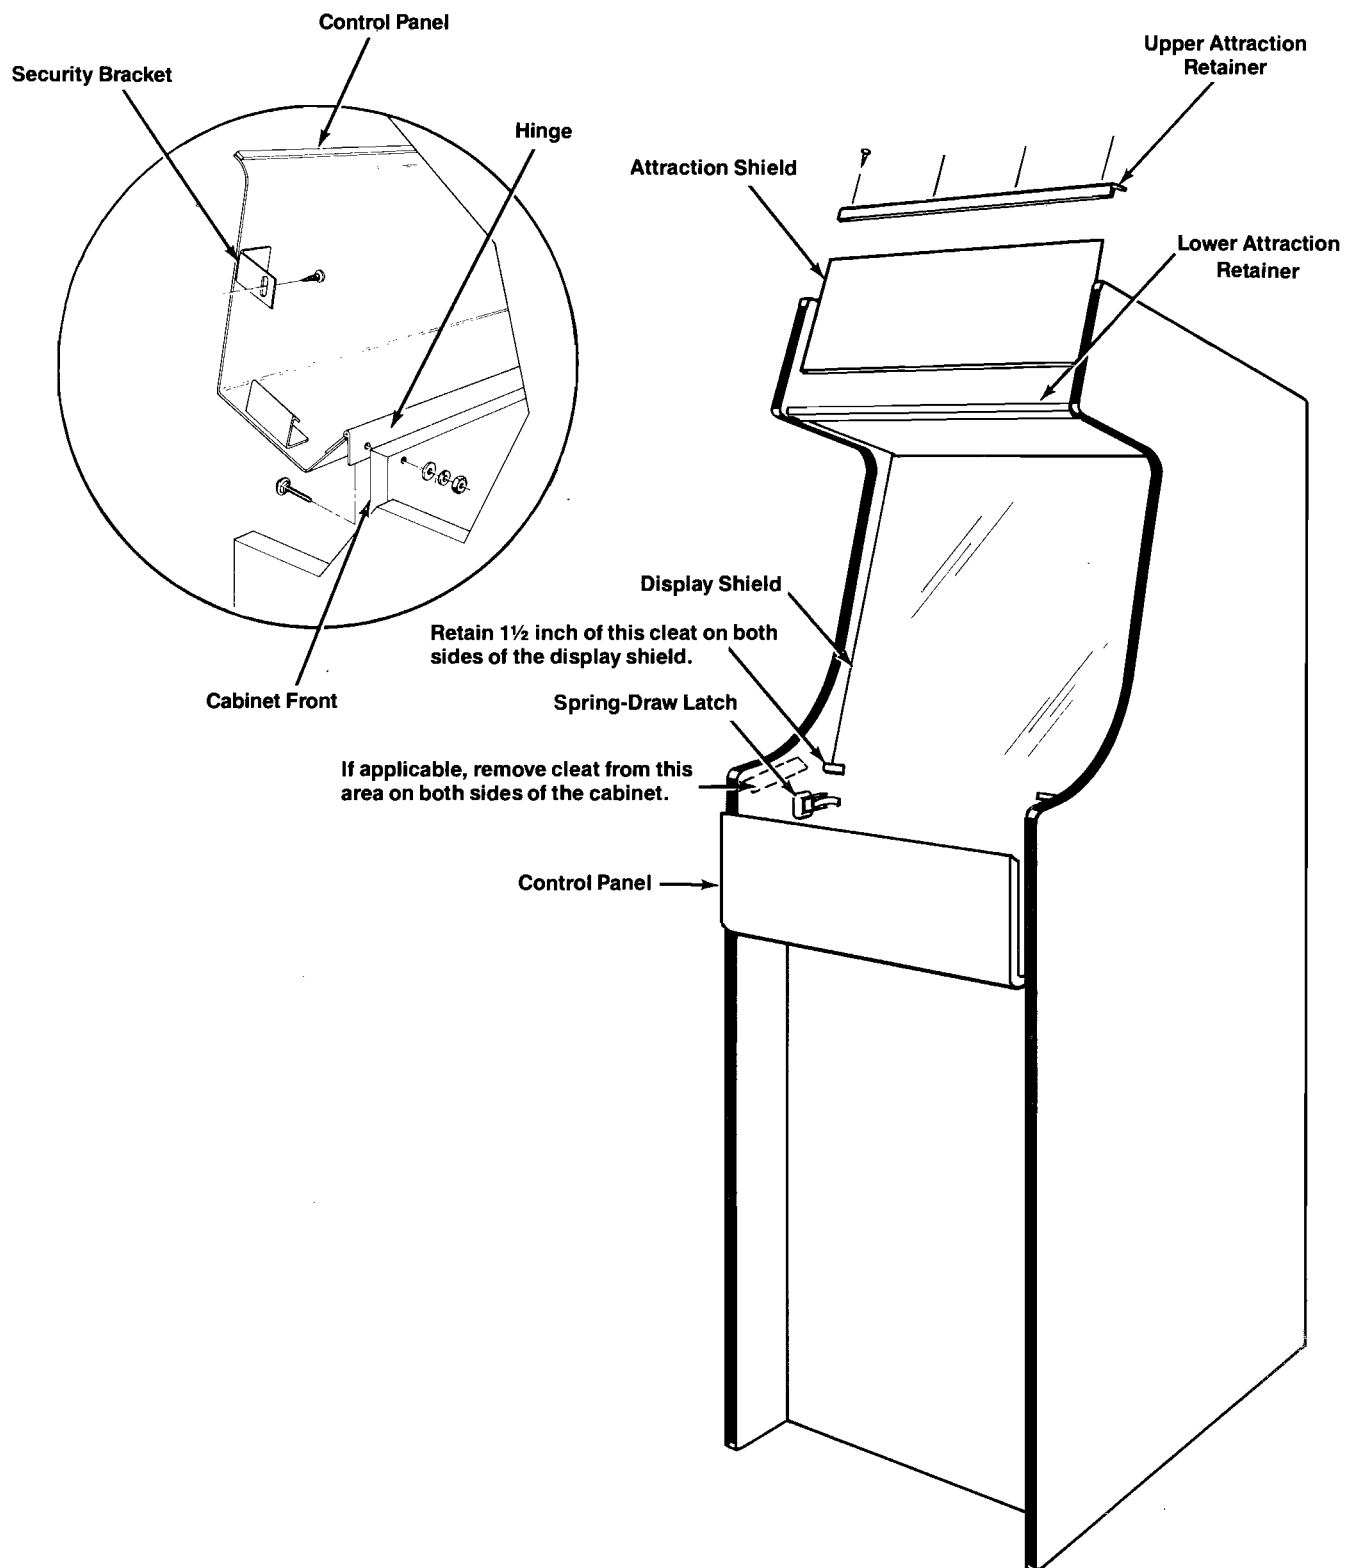

Figure 1 Attraction Shield, Display Shield, and Control Panel Replacement
| Figure 1 | Attraction Shield, Display Shield, and Control Panel Replacement..... | 4 |
The following procedures are arranged in a sequence recommended for performing the retrofit modification. The parts of your game that are affected by the retrofit (see Figure 1) are removed first. Then, the CLOAK & DAGGER kit parts are installed.
1. Reach inside the game cabinet and release the two spring-draw latches on the sides of the cabinet to the rear of the control panel (see Figure 1).
Use the Phillips-head screwdriver to remove the hardware that fastens the upper attraction shield retainer to the cabinet (see Figure 1). Remove the retainer and attraction shield. BE SURE TO KEEP THE HARDWARE AND RETAINER FOR REASSEMBLY.
Slide the CLOAK & DAGGER display shield into the cabinet, clearing the cleats at the lower edge (see Figure 1).
1. Position the CLOAK & DAGGER attraction film behind the attraction shield and slide them (as one unit) into the lower attraction retainer (see Figure 1).